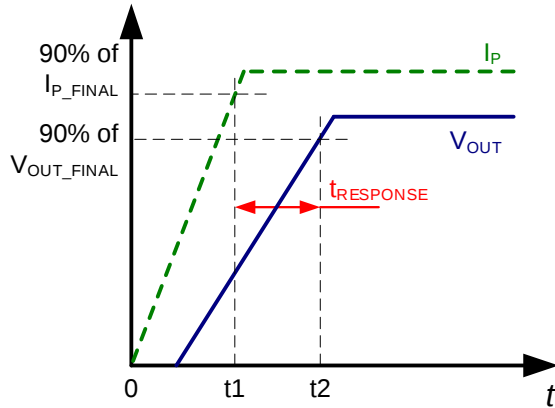

Figure 8: Response Time ( $t_{RESPONSE}$ )
2.  $t_2$ :  $V_{OUT}$  reaches 90% of its final value, as it corresponds to the applied primary current (see Figure 8).
|            |               | Updated Figure 8                                                                                           | 20            |